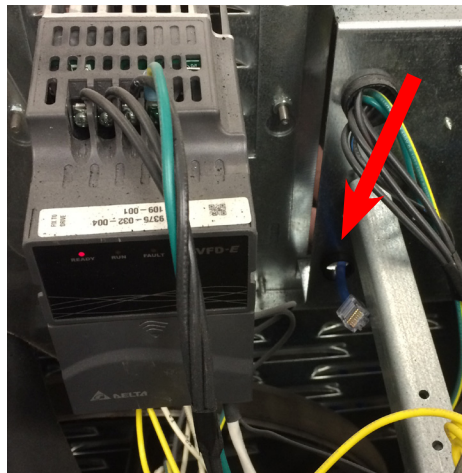

Figure 3
15. Inside the cover area route the cable to the right and through the hole with the bushing (Figure 3)